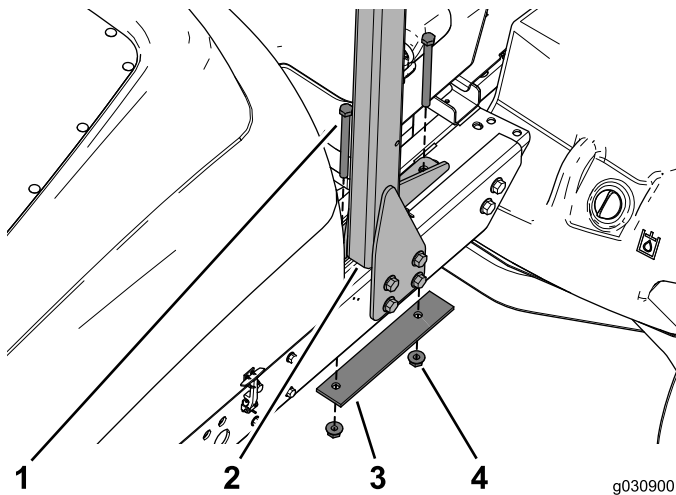

Figure 5
6. Arrange the wiring-harness plate and battery compartment to allow you to remove 2 bolts, reinforcement plate, and flange nuts that securing the ROPS to the top of the frame (Figure 5).